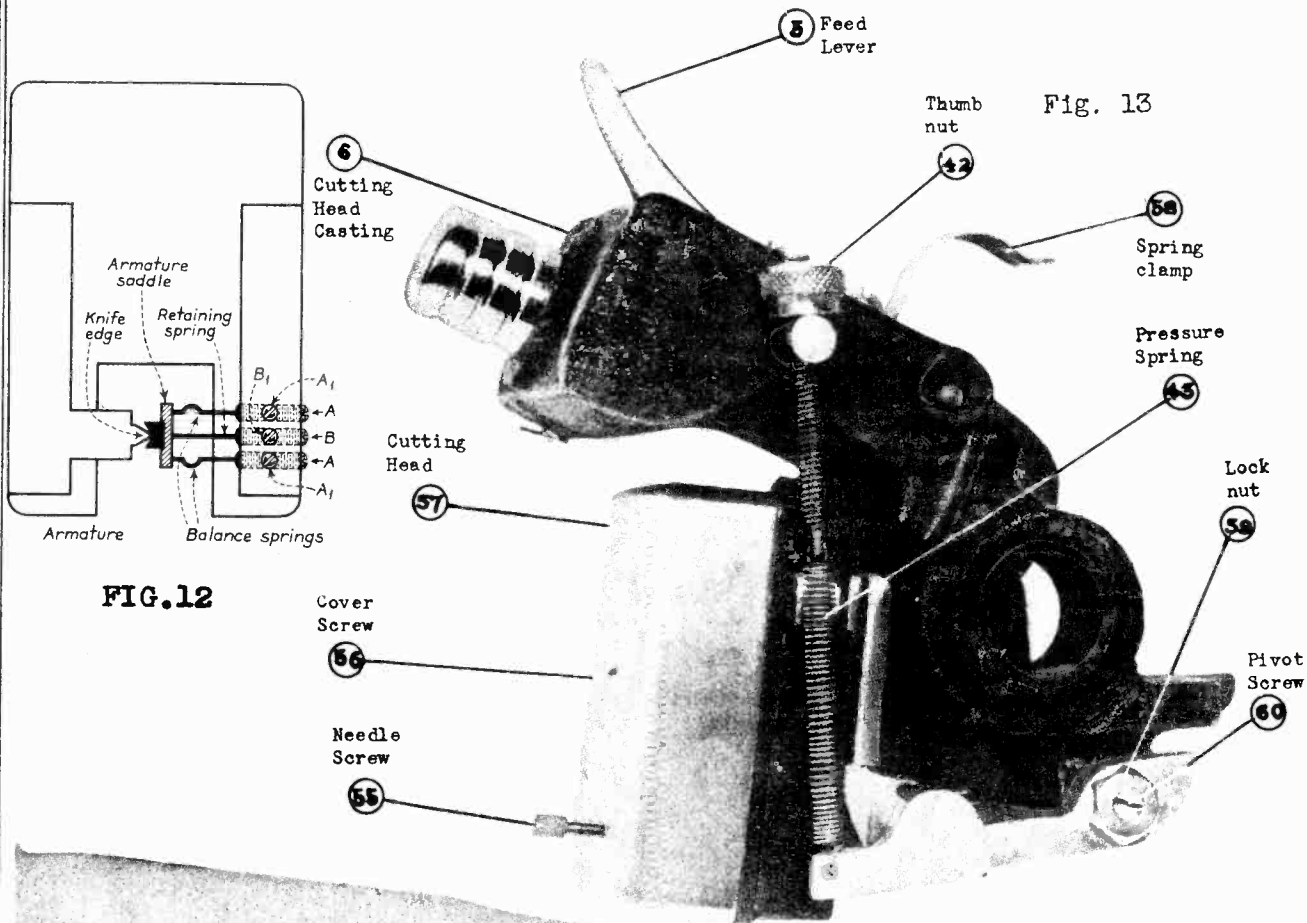
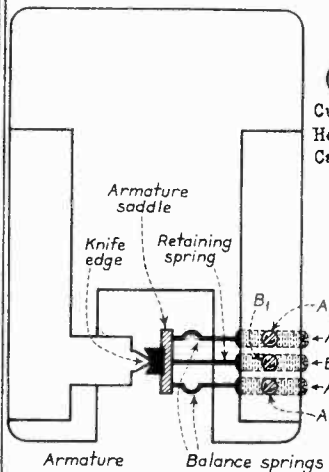
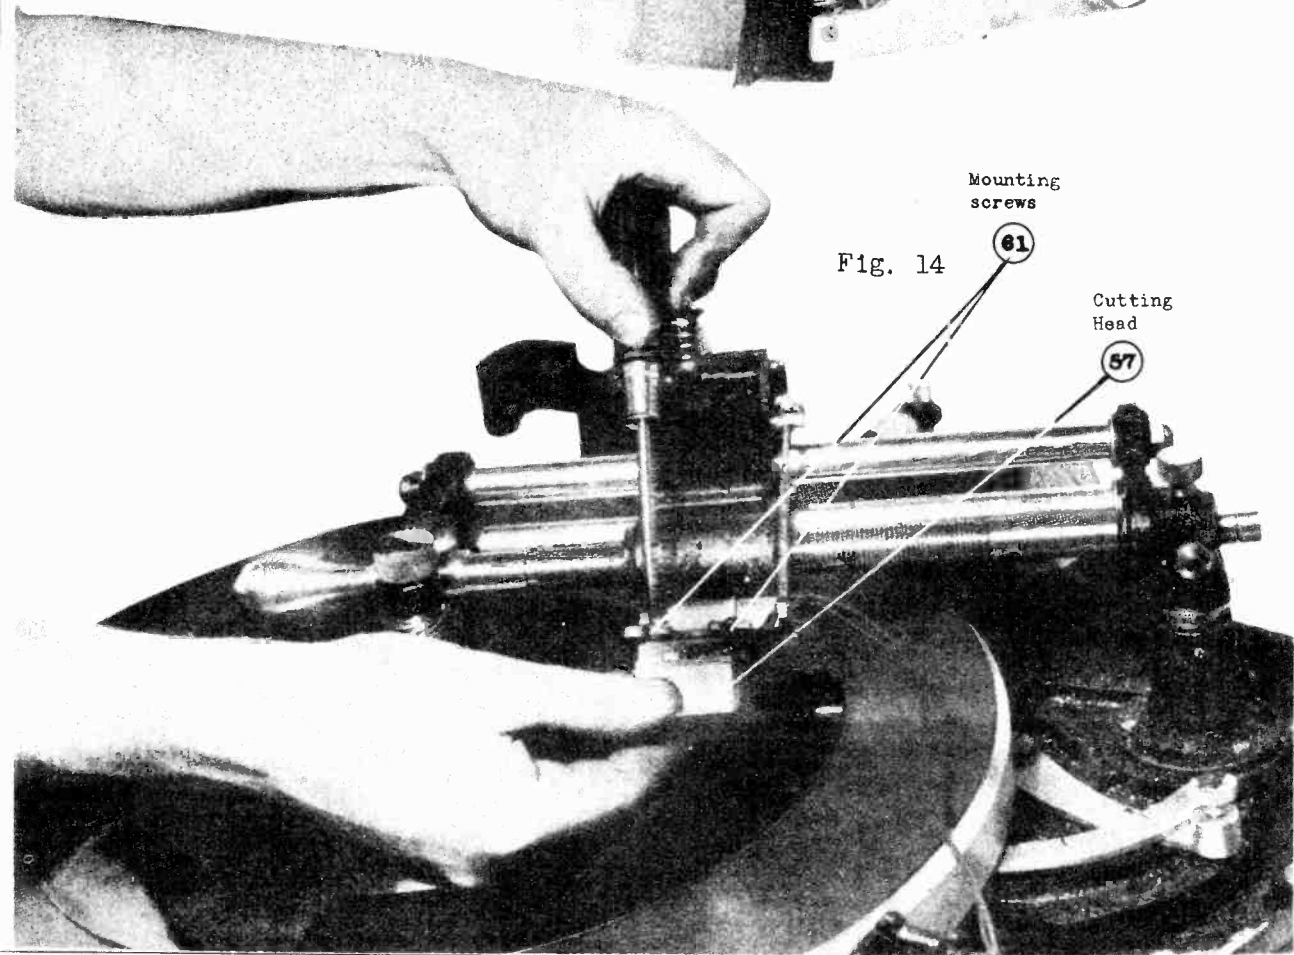

Fig. 13
FIG. 12
Fig. 14
Remove cover screw (56) Fig. 13, and cover. Grasp cutting head (57) on top and pull down. See Fig. 14. Loosen mounting screws (61) and slide head off bracket. Now remove back cover plate. With small screwdriver loosen locking screws (A'-A'') Fig. 12. The adjusting screws (A-A) can now be turned to center the armature. Reference to Fig. 12 shows how the centering screws (A-A) control the position of the armature. Whenever possible, it is strongly recommended that the cutter be returned to the factory for adjustment.
The depth of cut is dependent on the pressure on the needle point. The pressure of the cutting needle on the disc is regulated by the tension spring (43) Fig. 13, located on the right hand side of the cutting head. This tension spring is suspended from the threaded rod on the top of which is mounted a thumb nut (42). Turning this nut (42) to the right decreases the pressure on the cutting needle while turning it to the left increases the pressure. This adjustment is already made at the factory but if it gets out of adjustment it can be easily rectified by the turning of this nut. The needle pressure during cutting should not exceed 4 oz. This can be determined by using a small scale measuring in ounces and putting this scale on to the needle screw and lifting up to note the pressure, and then correcting it.
Tightening the needle screw (55) Fig. 13, will take care of the first condition. If the armature is collapsed it will be leaning either to the right or to the left as shown in Fig. 10A. The dotted line shows the armature in collapsed position. This condition can be quickly ascertained by removing the needle screw (55) and cover screw (56). The cover can then be removed and the cutting head inspected.